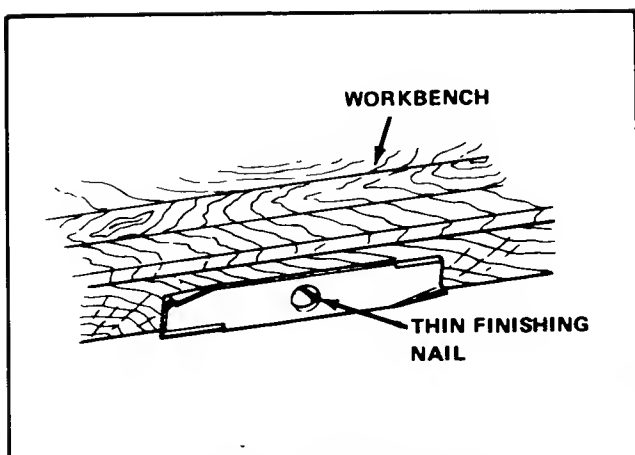

FIGURE 14 - Balance Blade
5. Balance the blade as shown in Figure 14. Center the blade's center hole on a nail lubricated with a drop of oil. A balanced blade will remain level.
- Carefully clean the blades and arbors, See Figure 14-A. Before installing the blade, be sure that the self-locking ring is pushed up tight against the blade adaptor. Install the new or sharpened blade with the lift tabs toward the top on the arbor shaft. Install the spline washer, making sure that it is engaged on the splines of the arbor shaft. Install the cup washer with the concave side toward the blade and tighten the capscrew securely. Use a block or wedge to keep the blade from turning while tightening the capscrew. (A-Figure 15).